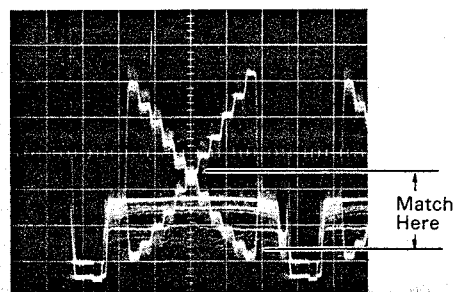

Fig. 6-4-24
- Connect the oscilloscope to TP307(B) and TP309(Y_L).
- Overlay the B. signal and Y_L signal on the oscilloscope, and adjust BLUE GAIN PRESET VR317 so that the signals match in the lower half of the gray scale. (Fig. 6-4-24)